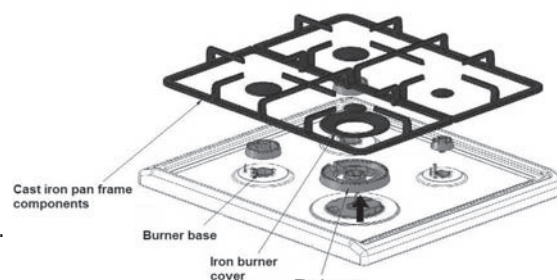

Figure 1
#### Removing the trivets (Refer Figure 1)
- Open the door to the full extent (fig.1);
- Double oven door: Remove the seal G by unscrew the no.2 bolts (fig.1)